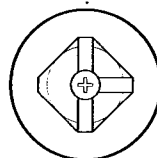

Fig. 28
2. Turn the gas service tap  $\frac{1}{4}$  turn from the OFF position (Fig. 28). This will supply gas to the boiler only. Purge according to in GB BS 6891 and in IE the current edition of IS. 813 "Domestic Gas Installations".